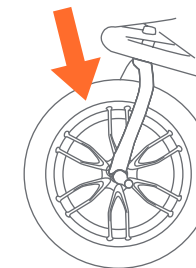

Fig. 23
23) • Lift the front wheel off of the ground and sharply strike the top of the tire (Fig. 23). The wheel should not be loose or come off.